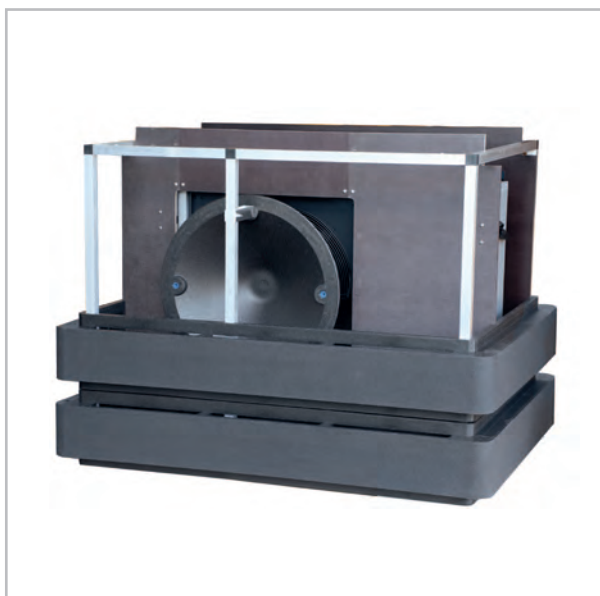

Fig. 39
- 28.** Use the M8 x 50 mm screws supplied to install the buffer. When installing, use the openings that are provided in the supports and install the buffer as shown in Fig. 39. Both buffers must be installed directly in front of the relevant fan on outdoor units that have two fans.